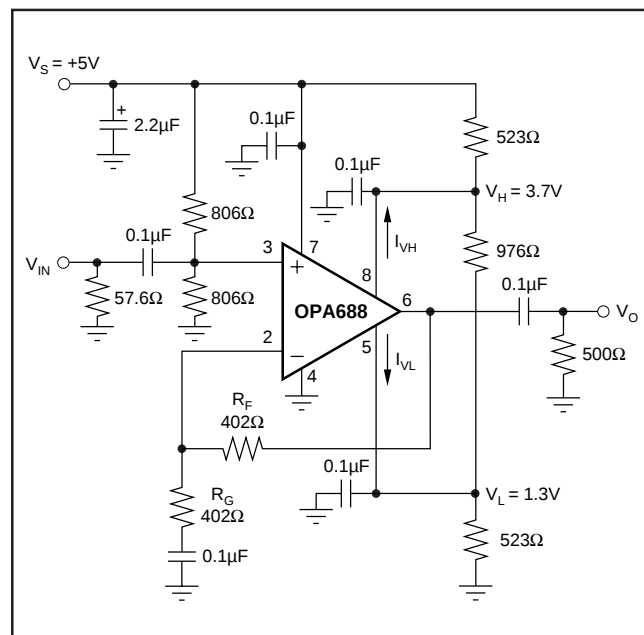

FIGURE 2. AC-Coupled, Single Supply Amplifier.
NOTES: (1) Junction Temperature = Ambient Temperature for low temperature limit and 25°C guaranteed specifications. Junction Temperature = Ambient Temperature + 23°C at high temperature limit guaranteed specifications. (2) TEST LEVELS: (A) 100% tested at 25°C. Over temperature limits by characterization and simulation. (B) Limits set by characterization and simulation. (C) Typical value for information only. (3) Current is considered positive out of node. (4) CMIR tested as < 3dB degradation from minimum CMRR at specified limits. (5) I_{VH} (V_H bias current) is negative, and I_{VL} (V_L bias current) is positive, under these conditions. See Note 3, Figures 2, and Figure 8. (6) Limiter feedthrough is the ratio of the output magnitude to the sinewave added to V_H (or V_L) when $V_{IN} = 0$. (7) V_H slew rate conditions are: $V_{IN} = V_{CM} + 0.4V$, $G = +2$, $V_L = V_{CM} - 1.2V$, $V_H =$ step between $V_{CM} + 1.2V$ and V_{CM} . V_L slew rate conditions are similar. (8) Linearity Guardband is defined for an output sinusoid ($f = 5MHz$, $V_O = V_{CM} \pm 1V_{p-p}$) centered between the limiter levels (V_H and V_L). It is the difference between the limiter level and the peak output voltage where SFDR decreases by 3dB (see Figure 9).
$G = +2$, $R_F = 402\Omega$, $R_L = 500\Omega$ tied to $V_{CM} = 2.5V$, $V_L = V_{CM} - 1.2V$, $V_H = V_{CM} + 1.2V$, (Figure 2 for AC performance only), unless otherwise noted.
Figure 2 shows an AC coupled, non-inverting gain amplifier for single supply operation. This circuit was used for AC characterization of the OPA688, with a 50Ω source, which
The OPA688 is nominally specified for operation using either $\pm 5V$ supplies or a single +5V supply. The maximum specified total supply voltage of 12V allows reasonable tolerances on the supplies. Higher supply voltages can break down internal junctions, possibly leading to catastrophic failure. Single supply operation is possible as long as common mode voltage constraints are observed. The common mode input and output voltage specifications can be interpreted as a required headroom to the supply voltage. Observing this input and output headroom requirement will allow design of non-standard or single supply operation circuits. Figure 2 shows one approach to single-supply operation.
When the limiter voltages need to be within 2.1V of the supplies ($V_L \leq -V_S + 2.1V$ or $V_H \geq +V_S - 2.1V$), consider using low impedance buffers to set V_H and V_L to minimize errors due to bias current uncertainty. This will typically be the case for single supply operation ($V_S = +5V$). Figure 2 runs 2.5mA through the resistive divider that sets V_H and V_L . This keeps errors due to I_{VH} and $I_{VL} < \pm 1\%$ of the target limit voltages.